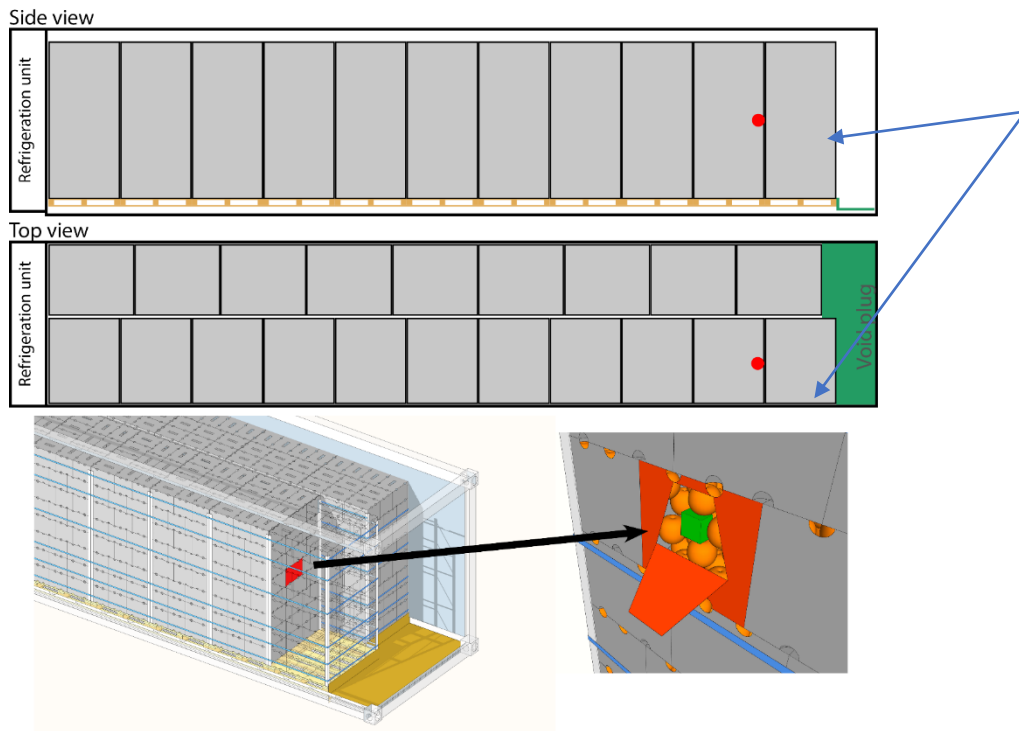

Figure 4: Illustration of cellular logger position. Red carton indicates where the temperature must be monitored (inside red carton).
- e. Placement during loading of the logger must be in the **required position**. Failure to do so will result in PPECB not authorising the container for export under the FMS (**Figure 4**):
- Refer to Figure 4 for logger position - second last pallet, on the left-hand side of the container, half the height of the pallet.